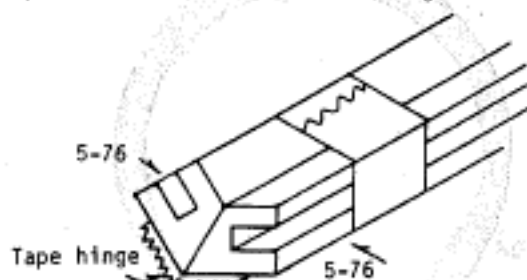

Figure 9
1. Cut eight 11 7/8" lengths of Large Tower Corner Post (Part No. 5-76). Lay a strip of masking tape on the table with the sticky side up. Lay the posts on the tape with the ends flush as in Figure 9.
5. Glue 4 of the Small Tower Corner Posts (S5-76) together to form 2 assemblies just as with the left bay wall posts. See Figure 9.